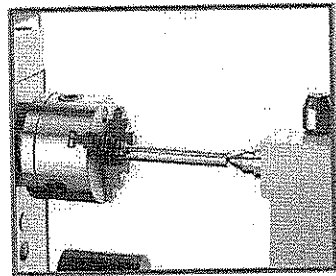

Fig. 11
As shown in Fig.11, the tailstock can provide support to workpiece from the right side. It can move along the bed and stop at any position on the bed. It can support the center, drill, reamer, tapping head and other tools. The specification of center is No.2. After loosening the Handle for Locking Tailstock (15), the tailstock can be moved to the left or right. After positioning the tailstock, it should be locked by the Handle for Locking Tailstock (15). After loosening the Tailstock Quill Lock Handle (12), the forward and backward functions of the quill can be carried out by turning the Tailstock Hand Wheel (13). After positioning, the Tailstock Quill Lock Handle (12) should be locked.